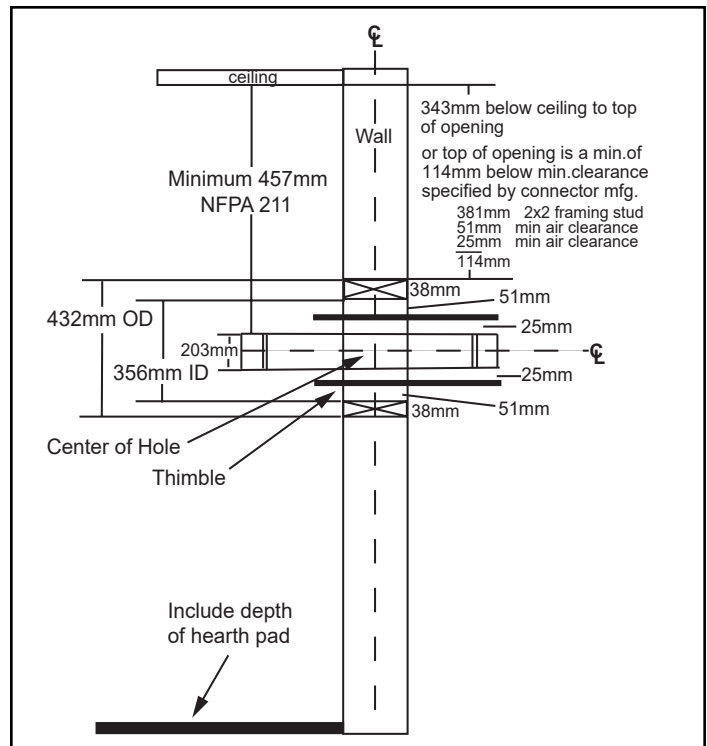

Figure 4.3
- Top of wall opening is a minimum of 343 mm from ceiling or 114mm below minimum clearance specified by chimney connector manufacturer. NFPA 211 minimum vertical clearance of 457mm from chimney connector and ceiling or minimum recommended by chimney connector manufacturer, Figure 4.3
1. Open inside wall at proper height for the chimney connector to enter the masonry chimney, Figure 4.3